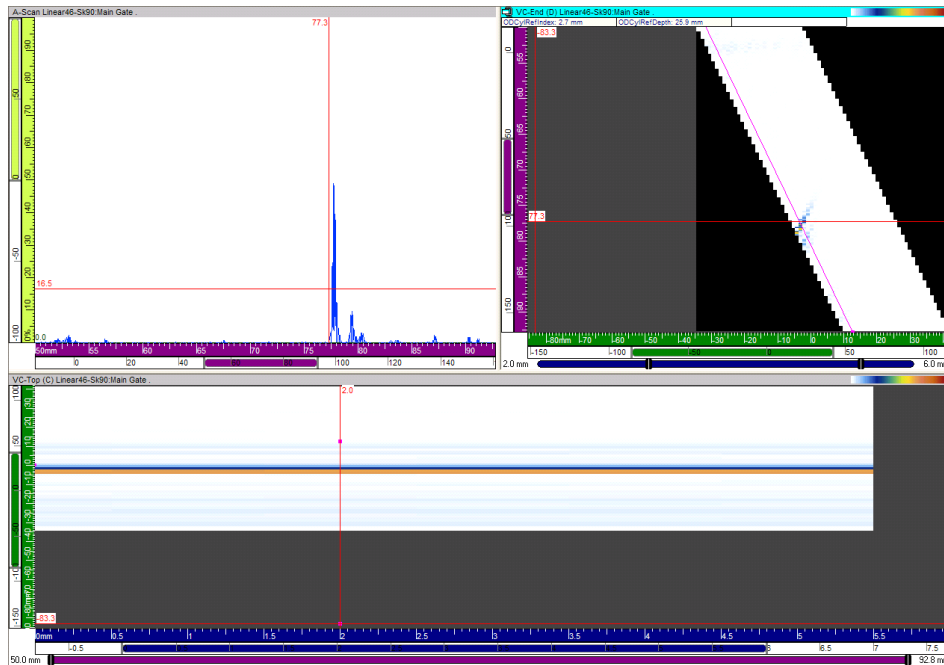

Figure 7-80 Analyzing cylindrical readings for a linear scan
2. Refer to Figure 7-80 on page 422 and perform the following actions:
- b) In the VC-END (D) view, read the cylindrical correction values.